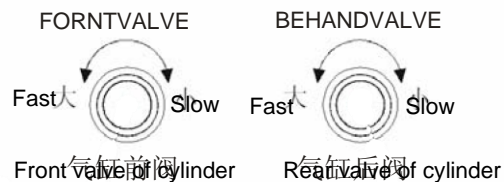

Figure 1
- (1) Connect the air source and slide the air inlet collar towards the machine.
- (2) Check whether the air pressure meter is in the specified range (roughly reading in the “12-3 o'clock” range). If not, draw the air pressure knob outwards to unlock, rotate the pressure regulator knob until the pressure is in the specified range (0.4-0.5Mpa) and push the knob back in to lock.
- (3) Use the Auto/Semiauxto switch to set the filler to the desired operation method.
- (4) To make an adjustment, you can loose the locking handle on the adjustment sensor, rotate the handwheel, take note of the value on the position display and fasten the handle.
- (5) Adjust the front valve (for adjusting drawing speed) and behind valve (for adjusting filling speed) as shown in Figure 1 to get reasonable drawing and filling speed.